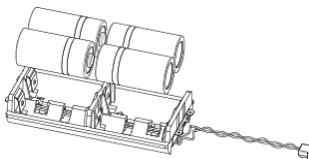

Figure 9
5. Replace the batteries while paying attention to the polarity of the batteries (see Figure 9).